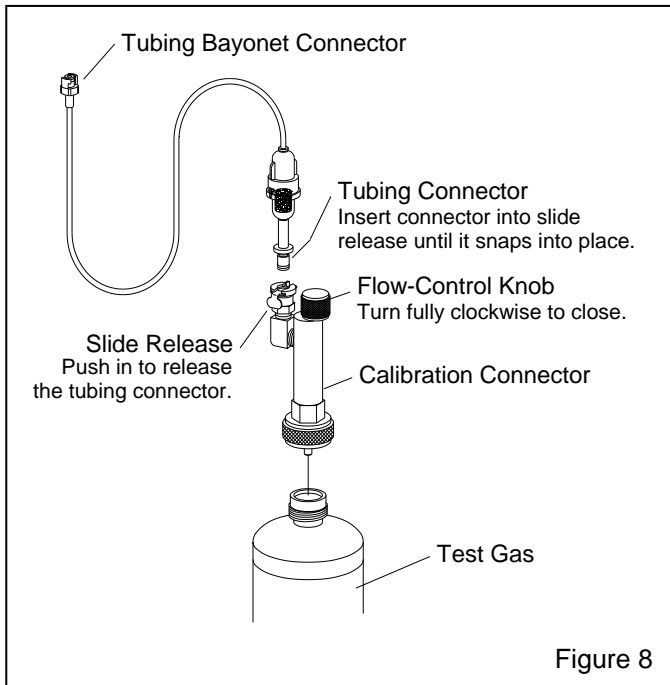

Figure 8
4.4.6 Refer to Figure 8 and insert the humidifier's tube connector into the slide release until it snaps in place. Gently pull the connector to make sure it is seated and locked.